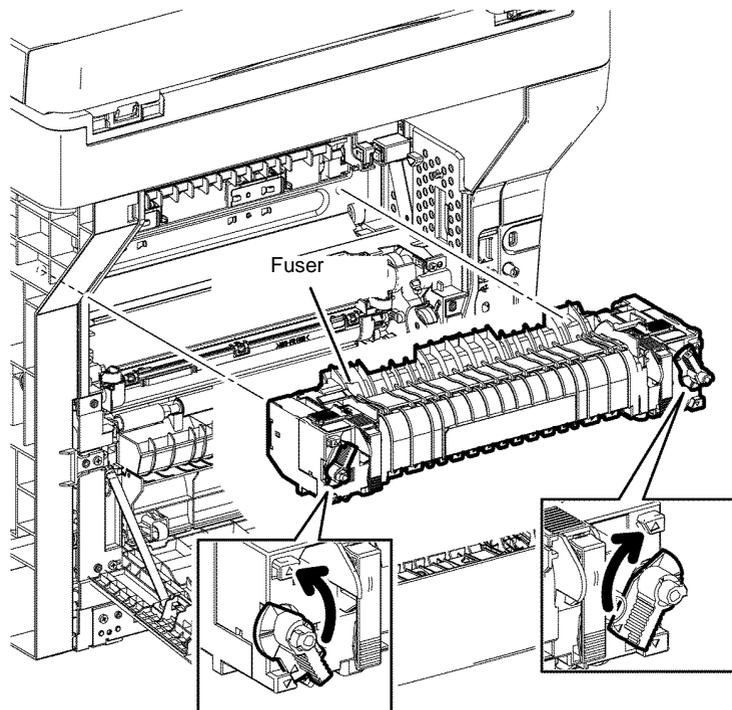

Figure 1 Fuser removal
2. Rotate the two levers that lock the fuser in the arrowed direction to unlock and remove the fuser, Figure 1.